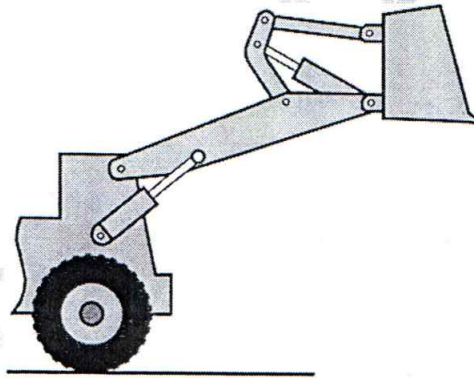

Fig. 1a
- 1 a) Draw the kinematic diagram and determine the degree of freedom for the excavator mechanism as shown in the figure 1a. 8